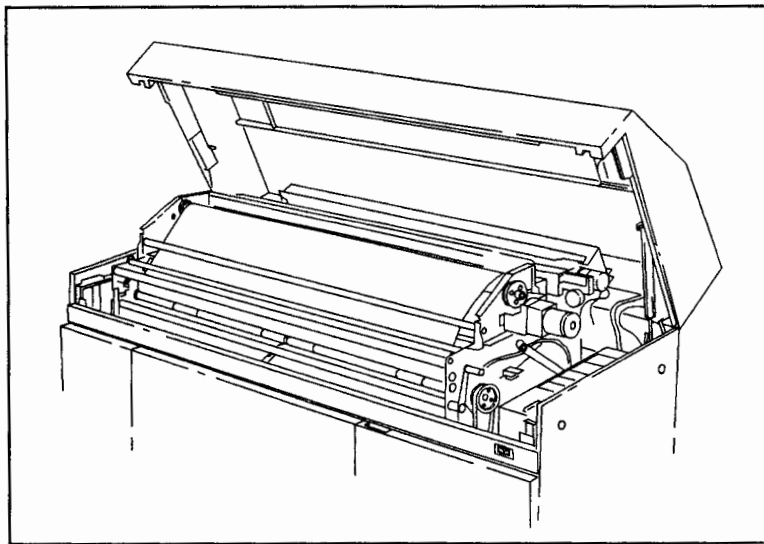

Figure 2-27. Take-Up Reel Operation
- d. Manually advance the spindle to take up the slack in the media and make at least one complete wrap around the spindle. See Figure 2-27.